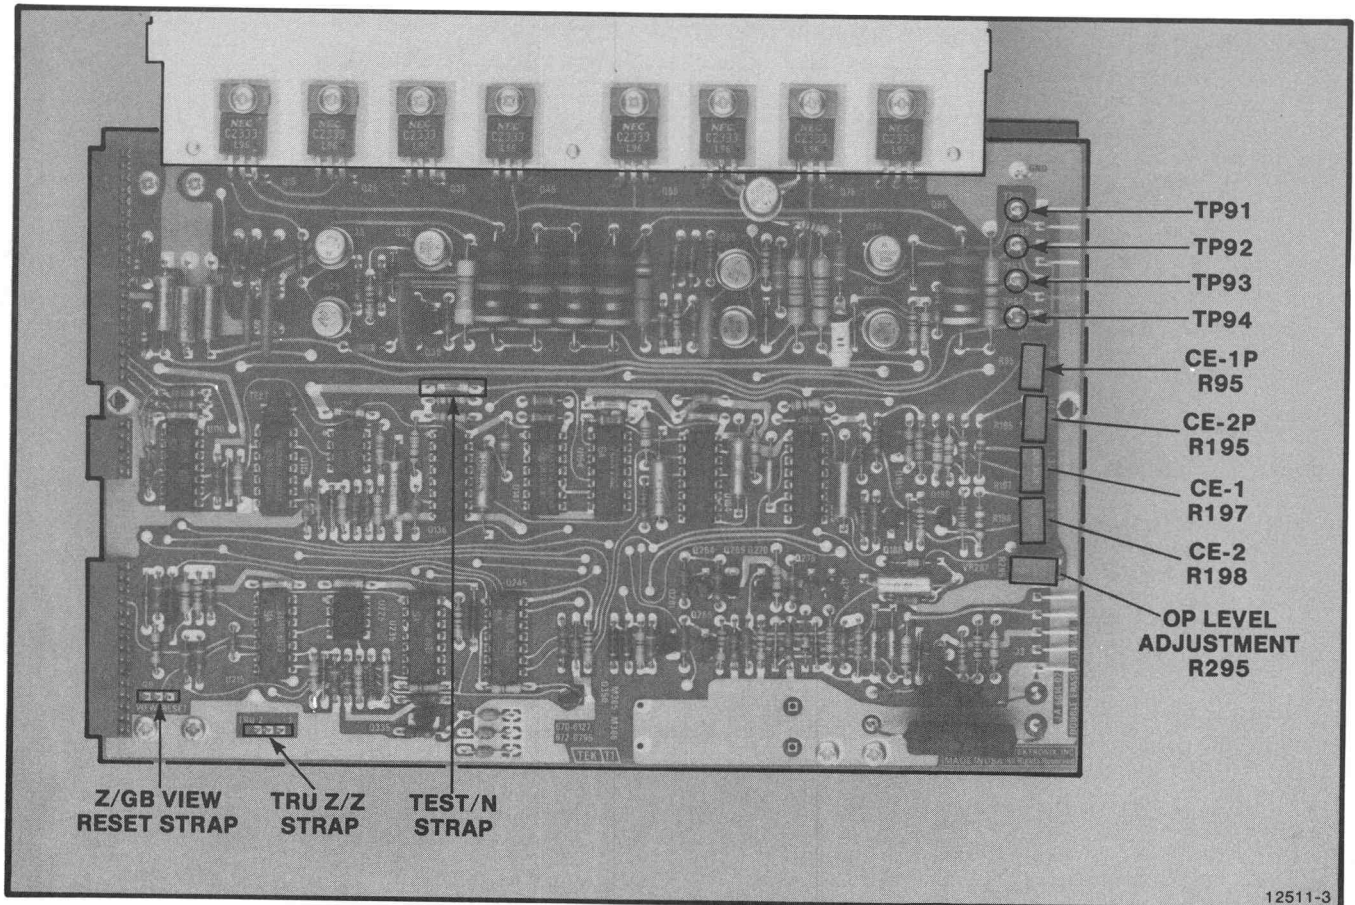

Figure 4-3. Storage Board Adjustments, Straps and Test Points.
12. **Check** the strap settings on the Storage board. Make sure that the VIEW RESET jumper is set to the GB (lower) position and also that the Z-TRU-Z jumper is set to the TRU-Z (lower) position. Set the NORMAL/TEST jumper to the "N" (top) position. Figure 4-3 shows the location of these straps.
All the test points and adjustments on the Storage board are located across the top edge of the Storage board. See Figure 4-3.